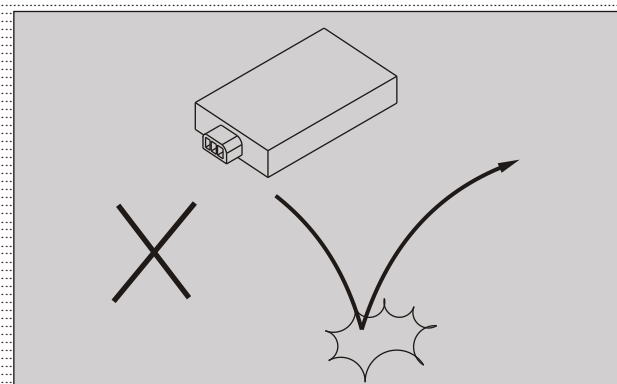

Fig. 5.4
- Be careful not to drop the parts with built-in semiconductor such as a TCI unit, regulator / rectifier and others. (Fig. 5.4)